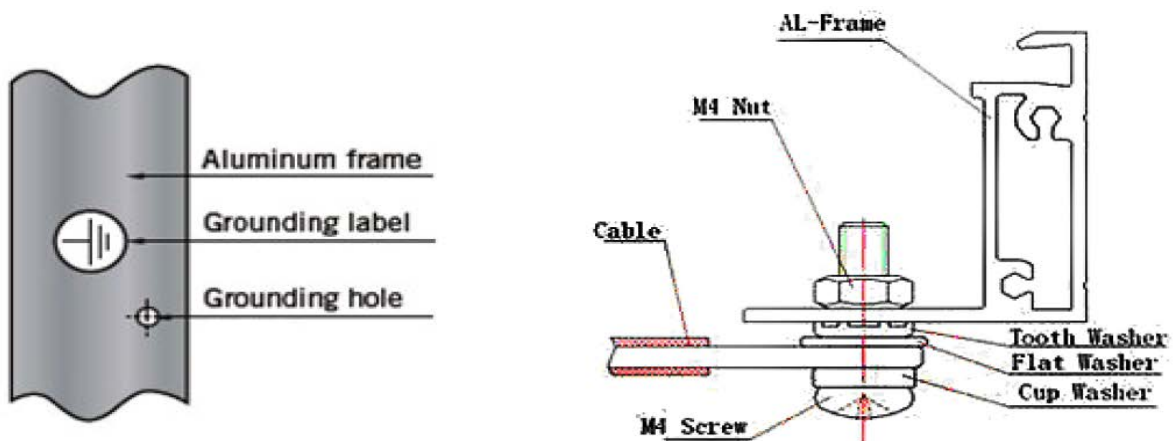

图4. 组件上接地标示及螺丝连接 Grounding mark and screw connection on the module
- 接地导体必须通过一个合适的地面电极连接到地面。推荐使用接地线配件（接线鼻）连接接地电缆。将接地电缆焊接在接线鼻的插口内，然后用 M4 螺钉插入接线鼻的圆环和组件边框接地孔，用螺母紧固。应该使用星型弹簧垫圈，以防止螺钉松脱导致接地不良。如图4
- The grounding conductor must be connected to the ground through a suitable ground electrode. It is recommended to use a grounding wire accessory (terminal lug) to connect the grounding cable. Solder the grounding cable into the socket of the lug, then insert the M4 screw into the ring of the lug and the grounding hole of the module frame, and fasten it with a nut. A star-shaped spring washer should be used to prevent the screw from loosening and causing poor grounding. As shown in Figure 4